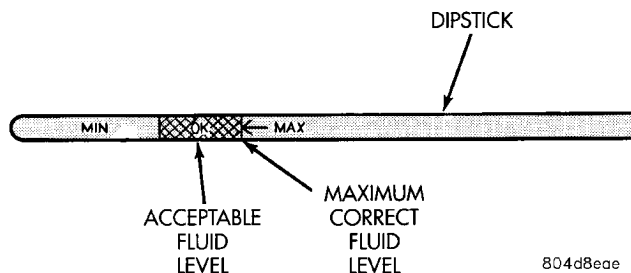

Fig. 12 Dipstick Fluid Level Marks—Typical
- (1) Transmission fluid must be at normal operating temperature for accurate fluid level check. Drive vehicle if necessary to bring fluid temperature up to normal hot operating temperature of 82°C (180°F).
- (2) Position vehicle on level surface.
- (3) Start and run engine at curb idle speed.
- (4) Apply parking brakes.
- (5) Shift transmission momentarily into all gear ranges. Then shift transmission back to Neutral.
- (6) Clean top of filler tube and dipstick to keep dirt from entering tube.
- (7) Remove dipstick (Fig. 12) and check fluid level as follows: